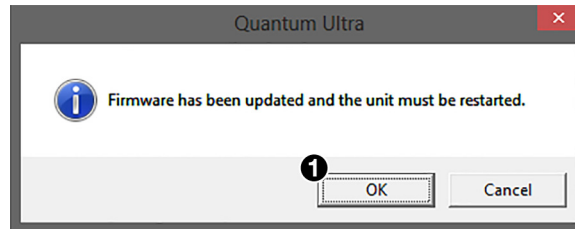

Figure 59. Restart Prompt after Firmware Update
11. Click **OK** (see figure 59, ①).